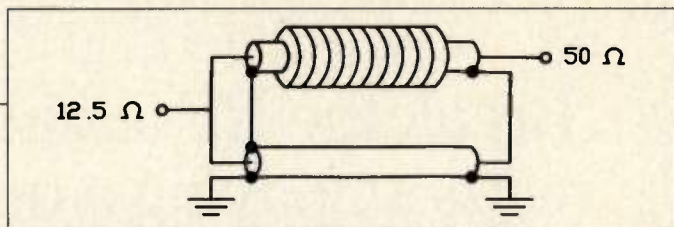

Figure 4. Output transformer.
The output transformer (Figure 4) is an equal delay configuration (10) of two baluns that provides a 4:1 reduction of the load impedance. Both T2 and T3 employ 25 ohm transmission line formed by connecting two RG-196/U 50 ohm lines in parallel. Ten Ceramic Magnetics